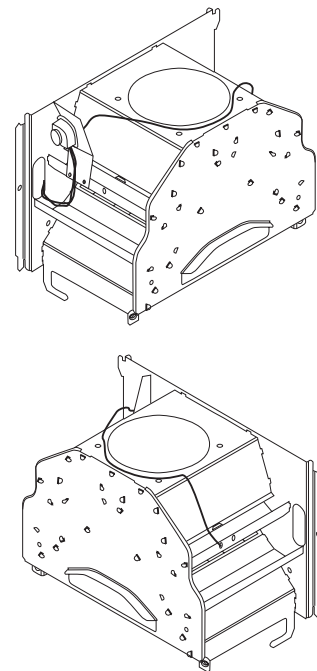

Fig. 6 Linear safety spillage switch mounting
1. Attach the spillage switch to the top left of the heater's draft diverter using the existing hole and the included mounting screw. (Fig. 6)
3. Route the two wires from the spillage switch down the left side of heater to the ECO keeping the cables out of contact with hot surfaces. (Fig. 6)